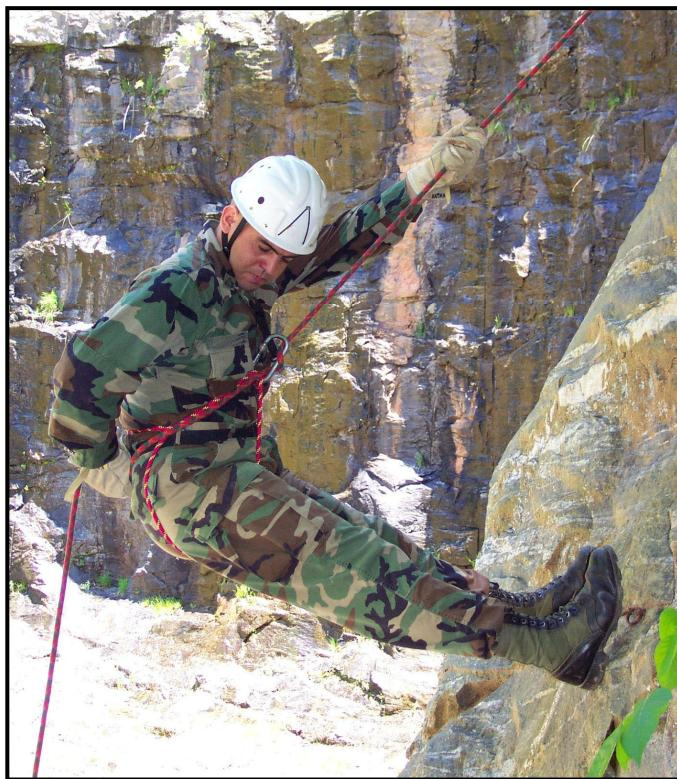

Figure 7-6. Seat-hip rappel.
c. **Seat-Hip Rappel** (Figure 7-6). The seat rappel differs from the body rappel in that the friction is absorbed by a carabiner that is inserted in a sling rope seat and fastened